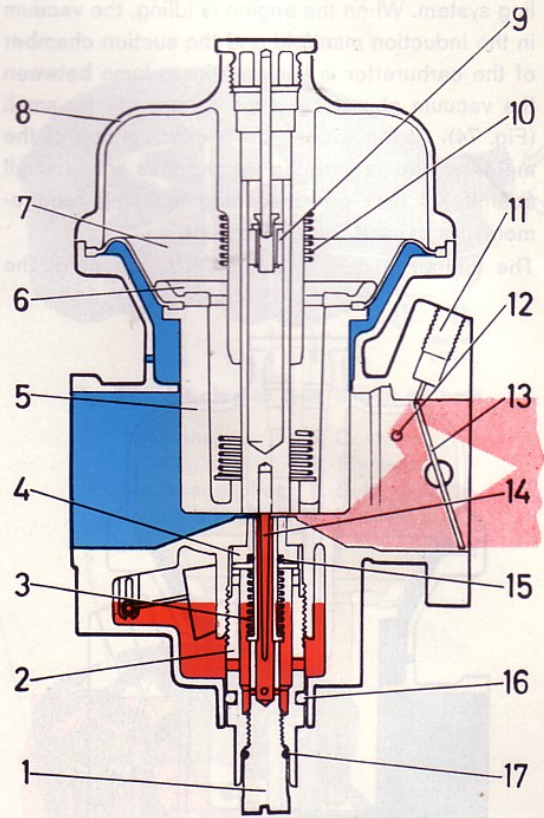
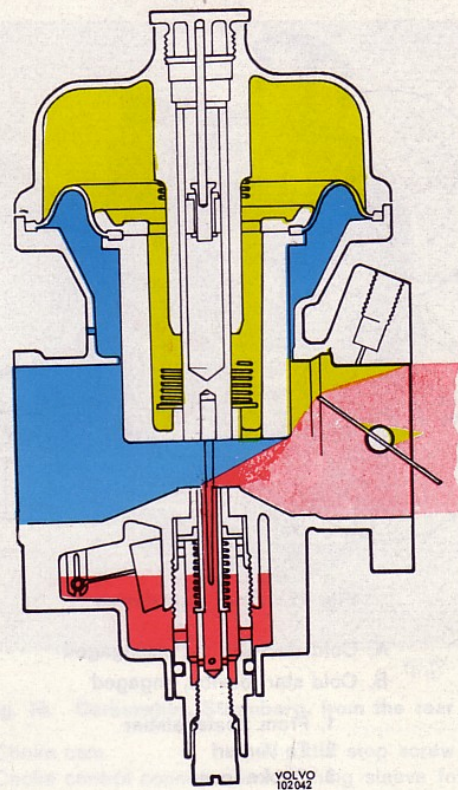

Fig. 73. Cold start, Stromberg
Fig. 75. Normal running
The fuel flows through four holes in the jet holder and also four holes in the upper part of the adjusting screws to the inside of the jet, where the level will be the same as that in the floatchamber. The seal of the adjusting screw and the jet holder, between the jet holder and the floatchamber and between the jet and the guide is provided by O-rings (15, 16 and 17, Fig. 73).
orifice adjusting screw (1, Fig. 73) at idling speed and applies to the entire speed range.
With the opening of the throttle flap, engine induction manifold depression is transferred via the channels in the plunger (5, Fig. 73) to the suction chamber which is sealed from the main body of the carburettor by the diaphragm. The pressure difference between the underside of the air valve, where there is pressure in the carburettor inlet port and the upper side of the valve, where there is vacuum, causes the valve to lift from the bridge. This also lifts the tapered metering needle (14), which is attached to the plunger, out of the jet. The effective choke area and thus also the fuel flow increases. See Fig. 75.
When the air valve (5, Fig. 73) is lifted up, this forces the damper plunger (9) against its seat and thus prevents oil from flowing past from the upper side to the lower side of the damper plunger and the movement of the valve (5) is resisted. This temporarily results in a more powerful vacuum above the jet so that the fuel-air mixture becomes for the moment richer.